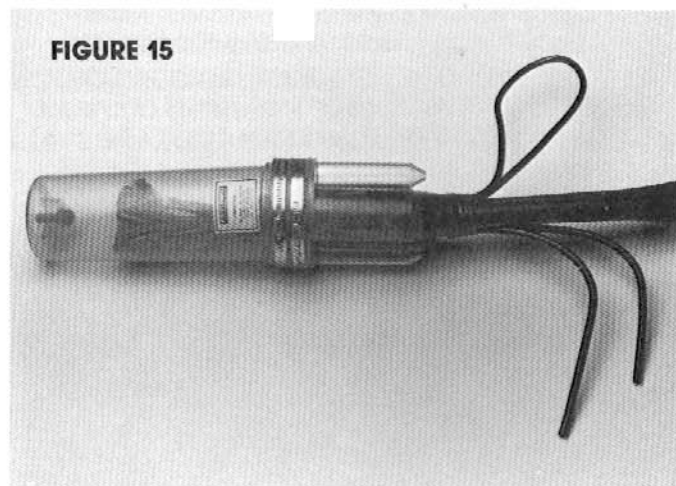

FIGURE 15
**2.07** This is the completed application of the PRE-FORMED Tri-Seal. (Fig. 15) The extra tubes of the Tri-Seal can accommodate extra cables and drops for any future cable construction.